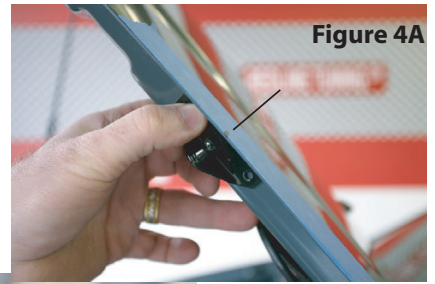

Figure 4A
A. Align the center of the bracket with the mark you just made on the hood. You will need to view the hood directly from the side as shown in **Figure 4A**. The bracket should sit on the angled hood frame with the ball stud facing up or away from vehicle.